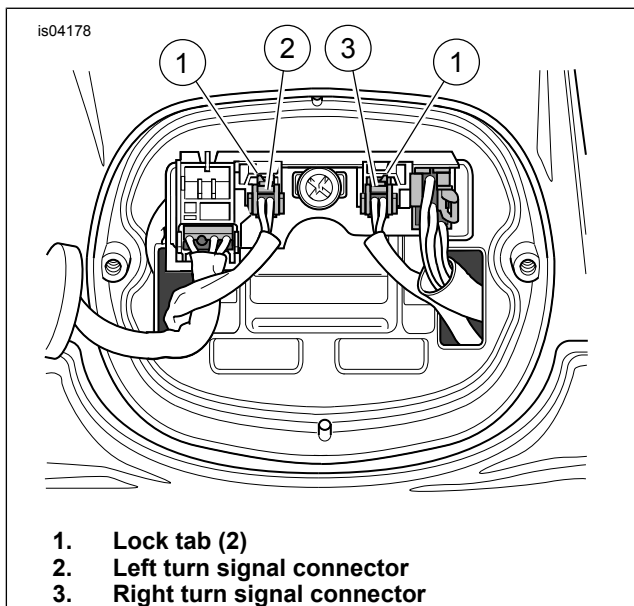

Figure 2. Turn Signal Connections
1. See Figure 2. Depress the lock tabs (1) on the left (2) and right (3) two-way turn signal socket housings [18B] and [19B] to disconnect them from the rear lighting circuit board.